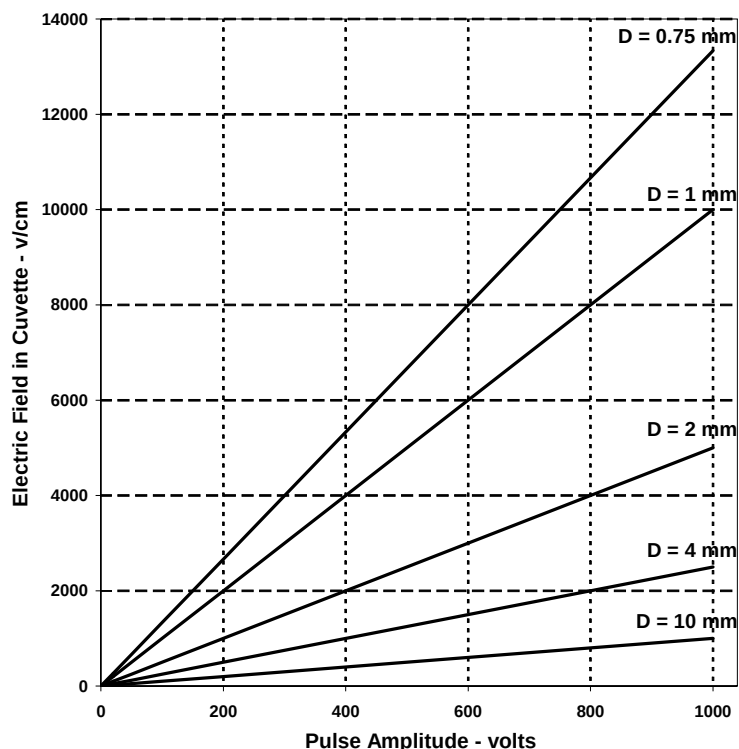

Figure 2-4: Electric Field vs. Cuvette Spacing
In electroporation applications, a typical chamber will have an electrode spacing (D) that will range from 1 mm to 10 mm. Standard cuvettes are widely available in 1 mm, 2 mm, and 4 mm spacing. To obtain the required electric field intensities, high voltage pulse generators have adjustable pulse amplitudes from tens of volts to over 1000 volts. Figure 2.4 presents the electric field intensity for standard cuvettes and applied pulse voltages.